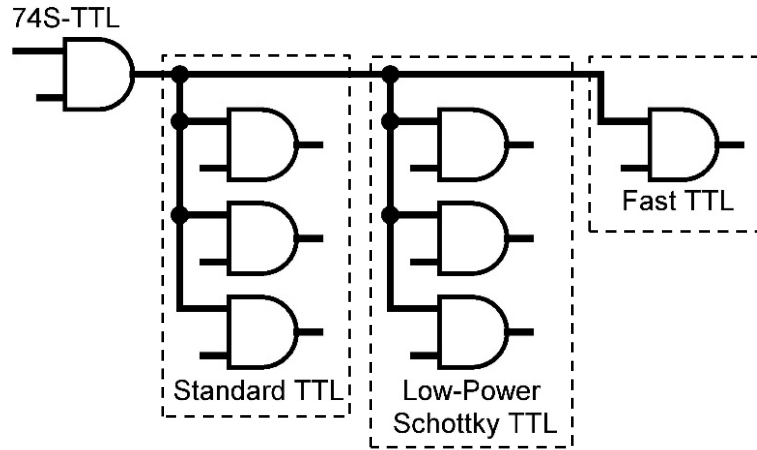

Figure 3(c)
- (ii) The 74S08 AND gate output needs to drive some 74S inputs in addition to the loads shown in Figure 3(c). Compute the additional number of 74S inputs that can be driven by the output of the 74S08 AND gate.